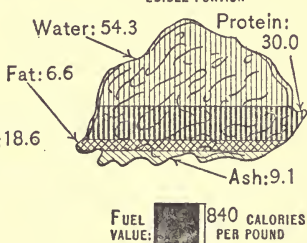

FIG. 20. — Composition of meats.
It comprises about one tenth of cereals (see figure 28), one seventh of meats (see figure 20), one fifth of dried beans and peas, and one fourth of cheese. (See figure 26.) Nuts vary greatly in composition, peanuts containing about one twelfth. Fruits and vegetables contain only small quantities of protein. (See figure 25.)
**Water.** Water forms a large proportion of nearly all foods. The amount varies greatly. Vegetables and fruits contain the largest proportion, ranging from eighty to ninety-five per cent. (See figure 25.) Nuts and dried foods, like peas, beans, wheat, and corn contain the smallest proportion, ranging from five to fifteen per cent. (See figure 28.) Meats contain a medium amount, ranging from fifty to seventy per cent. (See figure 20.)